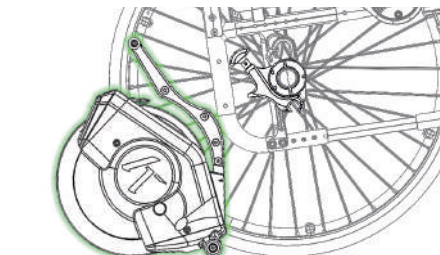

Figure 32
- Place the TWIST R on its front kickstand (Figure 32).